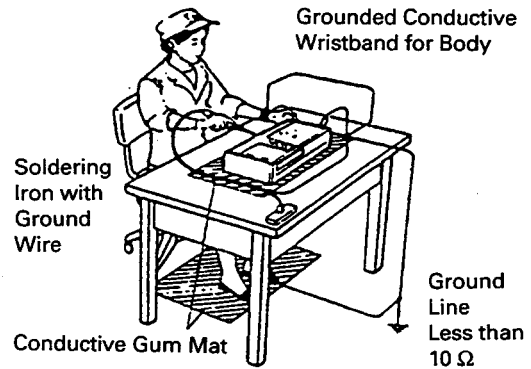

Figure 3
1. Remove the CD mechanism assembly by referring to the "Disassembly Instructions" (See Figure 3).